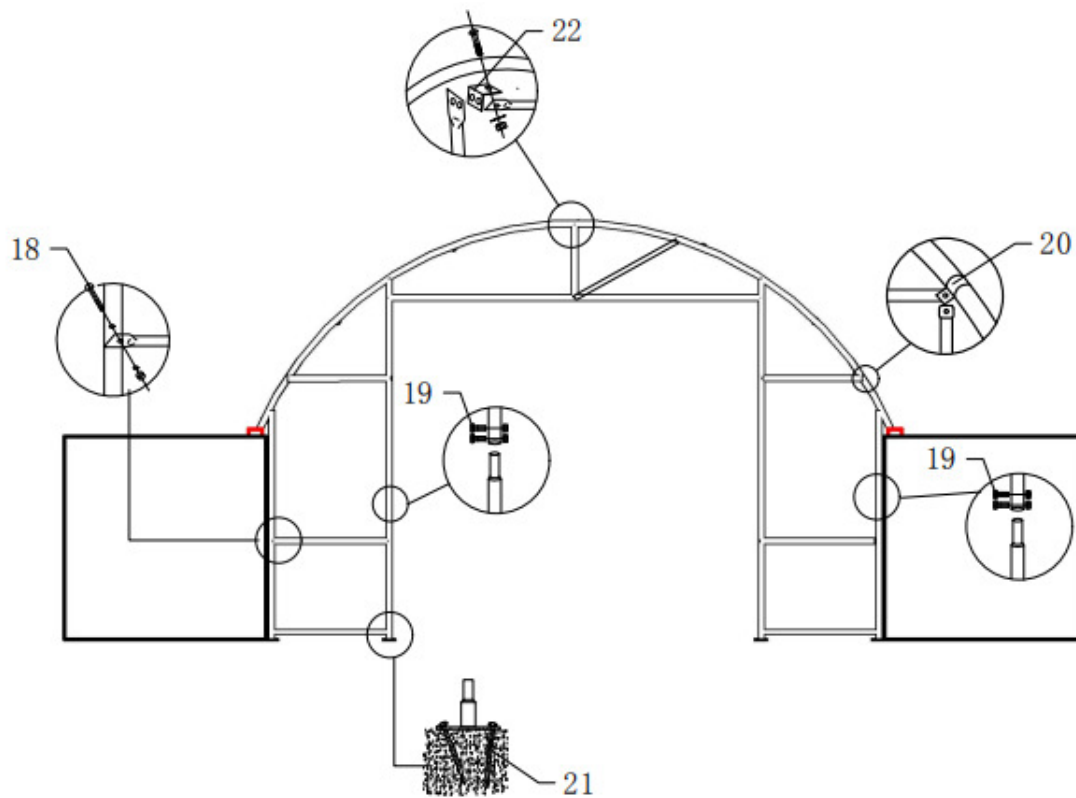

Figure 2
- 7.Assembly the arches one by one, then the frame will be finished like Figure 2.